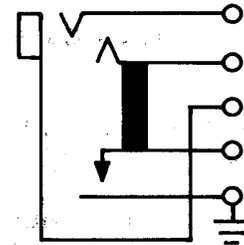

Fig. 10—365 Jack
2.10 365: This strip-mounted jack (Fig. 10) is furnished only on orders for jack mountings and is used with the 310 plug. The 365 jack is used with 107, 108, 109, 110, 112, 115, 116, 131, 136, 137, 180, 181, 217A, and 250A jack mountings.